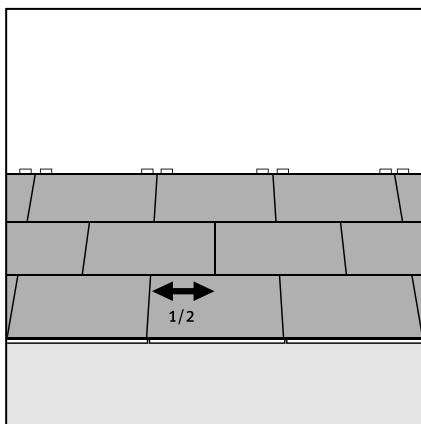

Figure 16 Stagger the short joints
- Insert the upper male profile of the long side of the panel into the corresponding lower profile of the long edge of the panel in the previous row, at a slight angle. Press down until it locks into place. Always try to stagger the short joints approx. 150mm from the nearest short joint in the previous row (Fig 16).